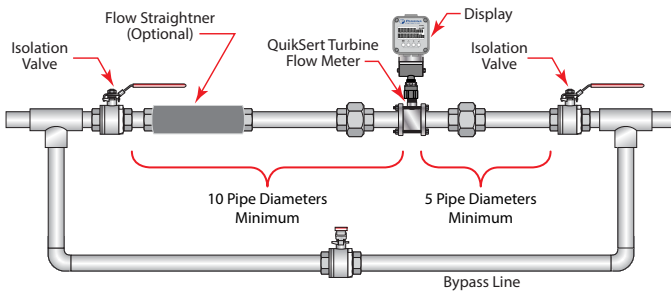
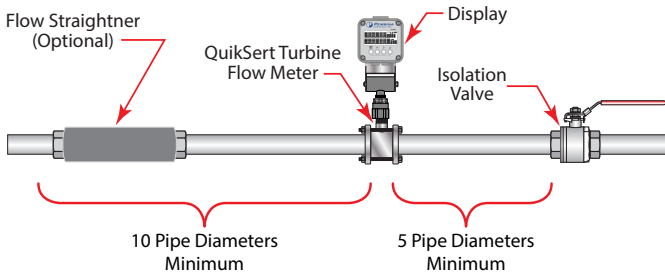

Figure 2: Meter installation using a bypass line
Figure 3: Meter installation without using a bypass line
6. Install a bypass line (Figure 2) for meter inspection and repair without interrupting flow. Install all control valves downstream of the flow meter, if a bypass line cannot be used (Figure 3 on page 6).